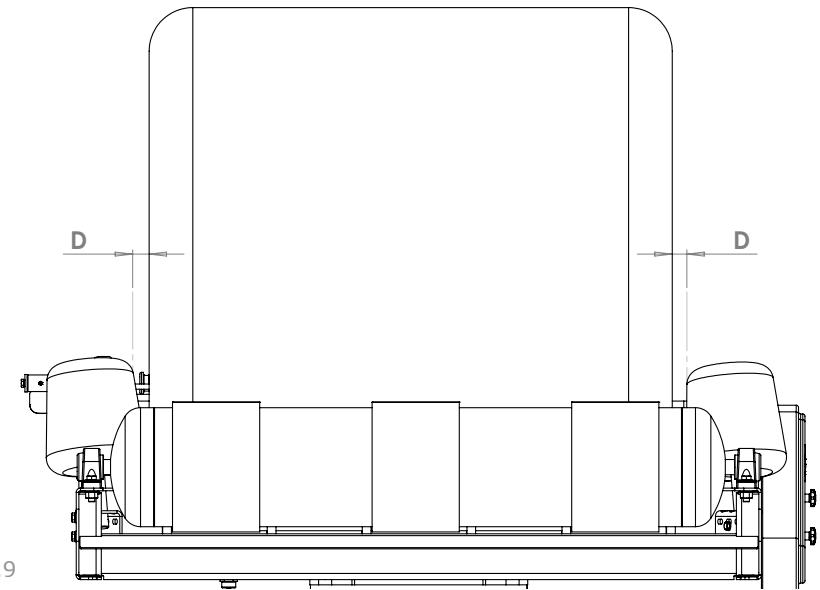

Fig. 6.9
To allow for stability of the bale during the wrapping process the support rollers can be adjusted different sized bales. It is important that the support rollers are adjusted so that the bale is in the middle of the table. When the bale is on the table (See Fig. 6.9) the distance between the ends of the bale and the support rollers (D) should be  $<50\text{mm}$ .